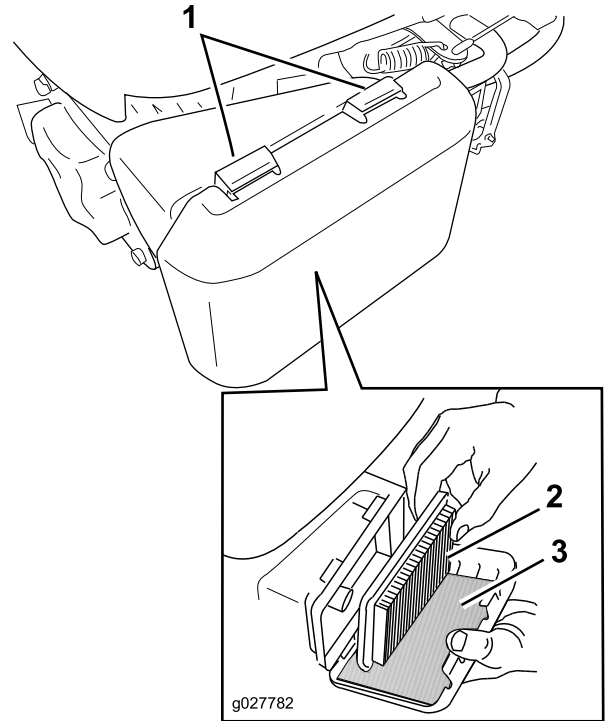

Figure 35
1. Press down on the latch tabs on top of the air cleaner cover (Figure 35).
3. Remove the paper air filter and the foam pre-filter (Figure 35).